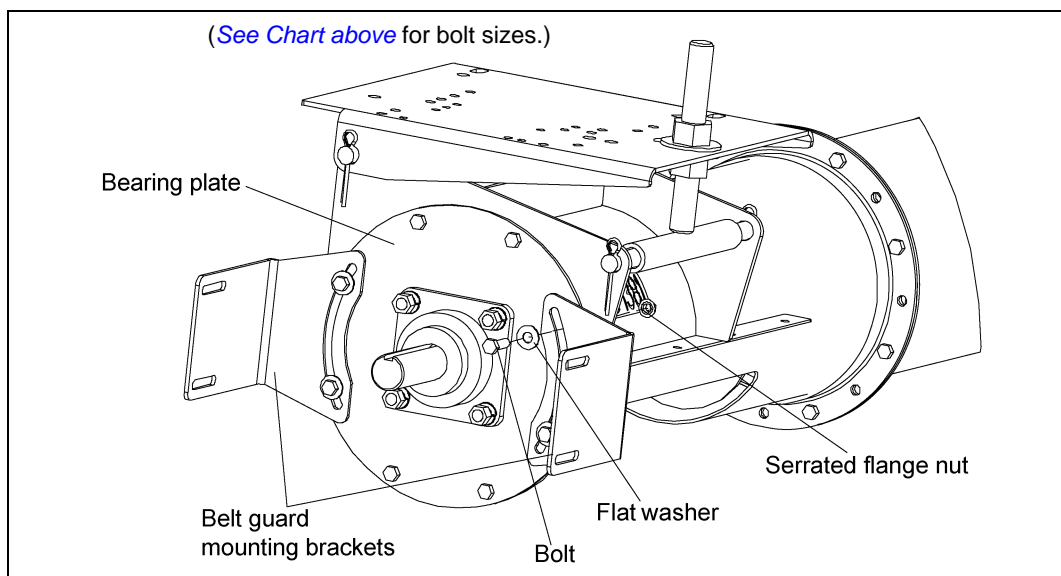

Figure 4G
- Secure the brackets with proper bolts, flat washers, and serrated flange nuts. (See Chart below and Figure 4G.)